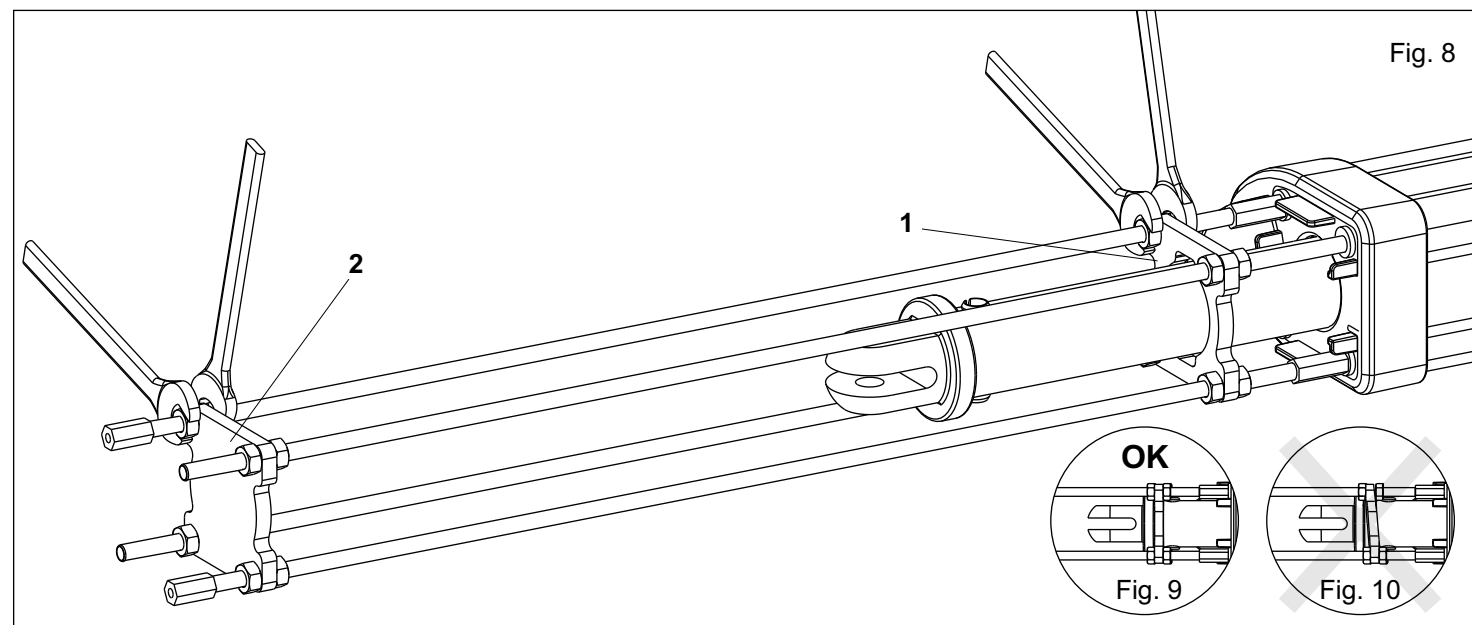

Fig. 8
8. Adjust the mechanical stop according to one's needs using the appropriate nuts (Fig. 8).